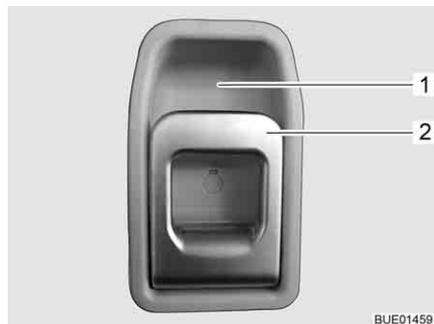

Fig. 58 Door lock of conversion door, inside
- Pull on the handle (Fig. 58,2). The door lock is unlatched.
- Press the upper part of the handle (Fig. 58,2) in the direction of the recessed handle (Fig. 58,1).